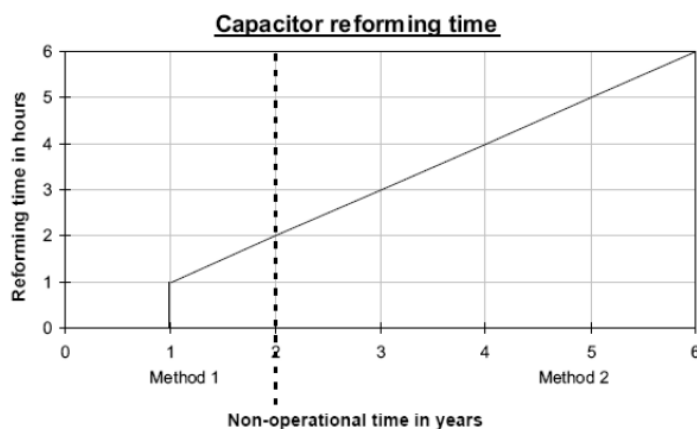
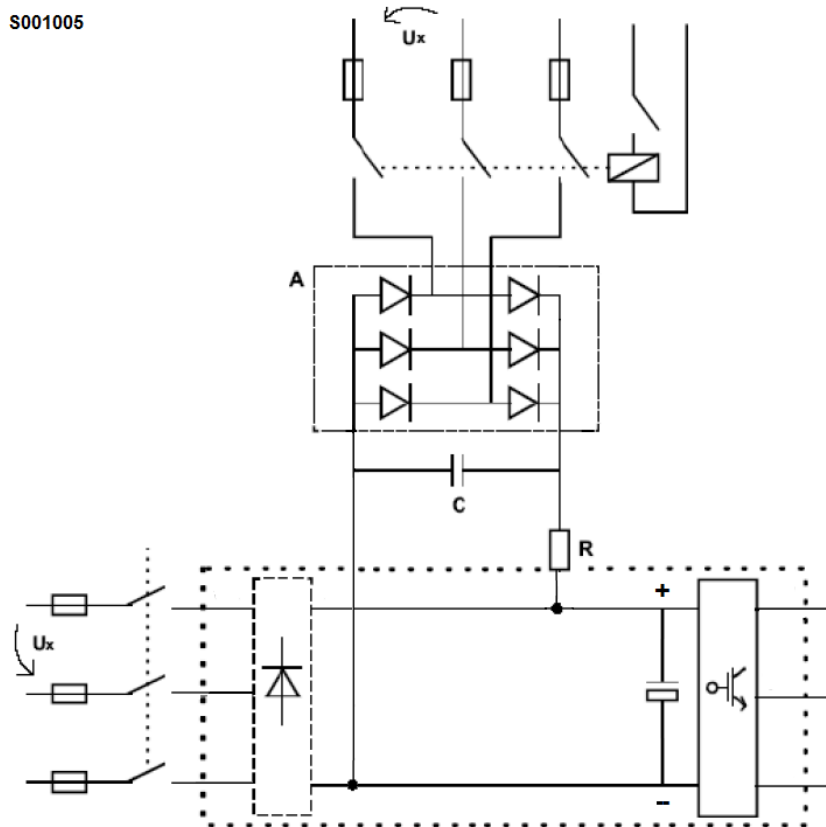

Figure 1. Capacitor reforming time.
Figure 2. The reforming circuit for method 2A.
The intermediate circuit of the drive is kept in its nominal voltage for the reforming time to "wake up" the capacitors. The reforming time required depends on how long the drive has been stocked (non-operational). See figure 1.
Switch the power on to the drive for a time given in figure 1 (Method 1). The drive "wakes up" its capacitors by itself. Power drives up once a year to keep the capacitors in operational condition.
a) Method 2A Capacitors are reformed by switching in a rectifier and resistor circuit, which is connected to the drive input. The reforming circuit is given in figure 2 below. Circuit component values for different voltages are given in table 1. See the reforming time in figure 1.
An appropriate reforming voltage is $(1.35 \cdot \sqrt{2}) \cdot U_x$. See the reforming time in figure 1.